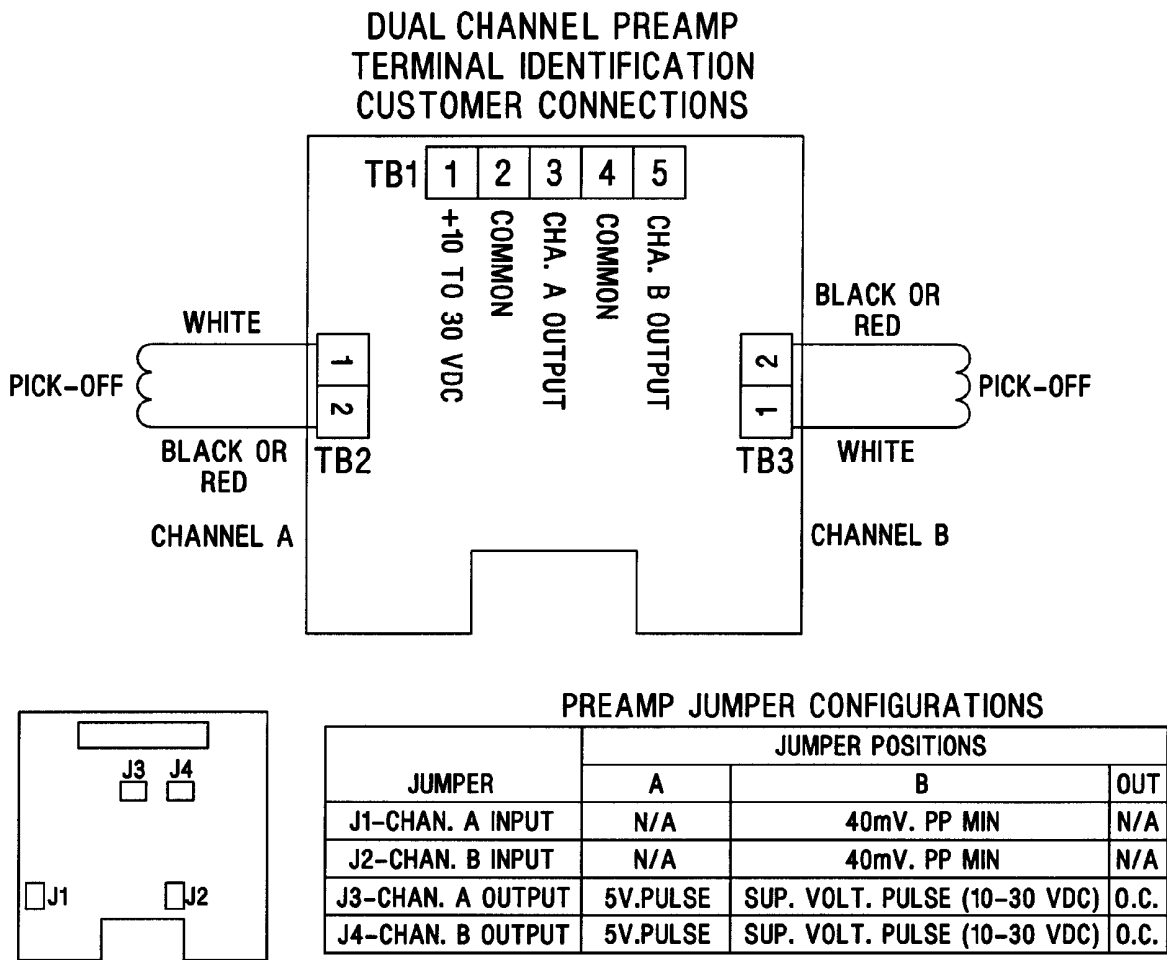

Figure 3-2. UMB Wiring
Pickoff input signal connections are made at terminal strip connection TB2 for Channel A, and TB,3 for Channel B. Power supply and output signal connections are made at terminal strip TB1. Reference Figure 3-2. For single channel wiring use Belden 8770, or equivalent. Earth ground shield at one end only. Terminate shield and insulate it at the other end. For dual channel wiring use Belden 8770, or equivalent for power and channel A signal. Use Belden 8219, or equivalent for channel B. Connect both shields to earth ground at one end of cables and terminate and insulate shields at the other end. UMB housing should be at earth ground.
3. Attach electrical output wiring from both pickoffs to terminal connection TB2 and TB3 as shown in Figure 3-2.